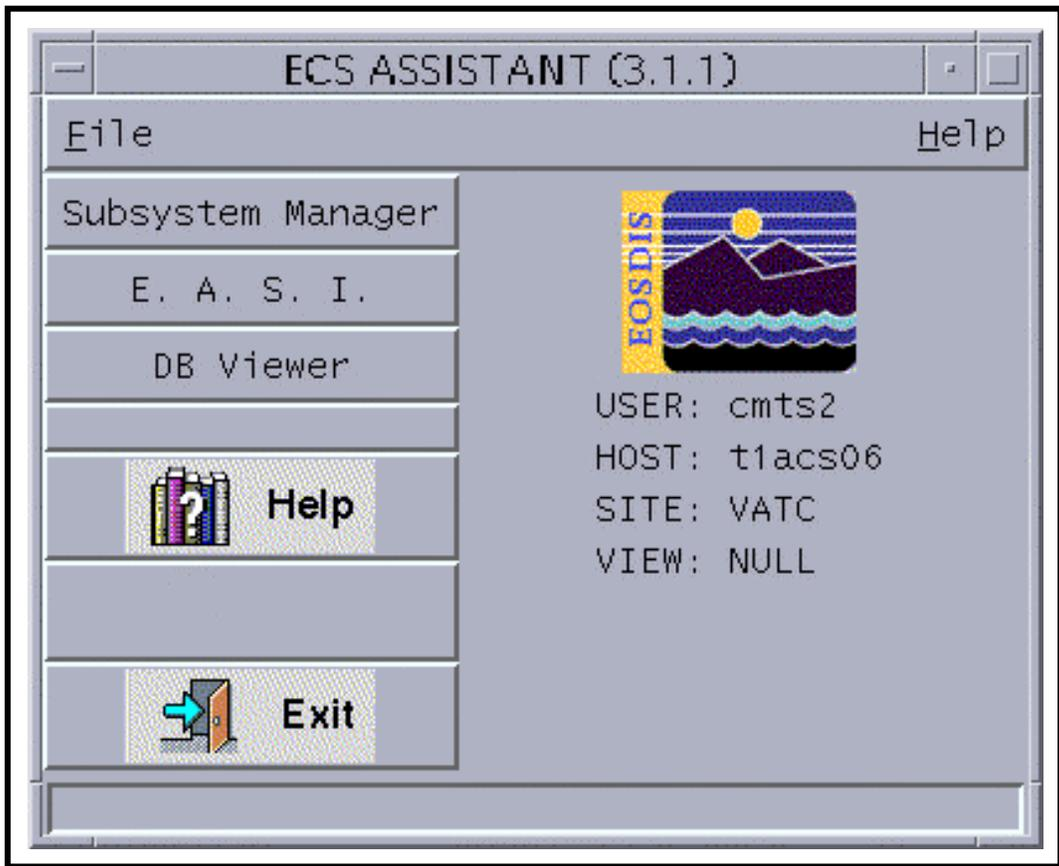

Figure 8. ECS Assistant Main GUI
- This will invoke the ECS Assistant GUI with three push buttons for selecting the proper activities, as indicated in Figure 8.